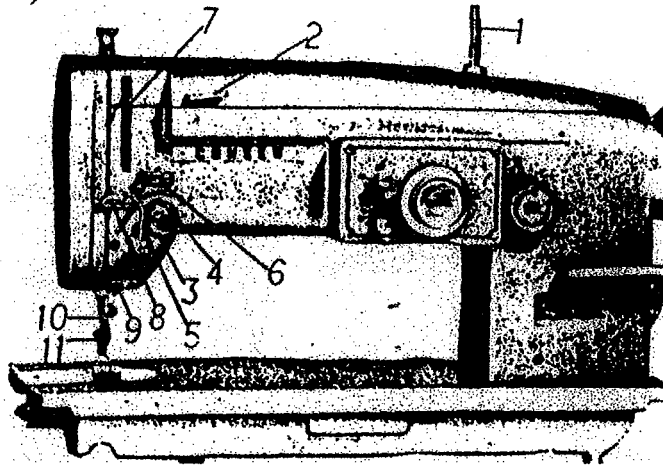

Fig. 5
Starting from the spool pin (1), please lead the thread while following the numerical progression depicted in Fig. 5.
- (1) Spool pin
- (2) Three hole thread eyelet
- (3) Tension disc
- (4) Tension spring
- (5) Tension post thread guide
- (6) Upper arm thread guide
- (7) Take up lever
- (8) Tension post thread guide
- (9) Lower arm thread guide
- (10) Needle bar thread guide